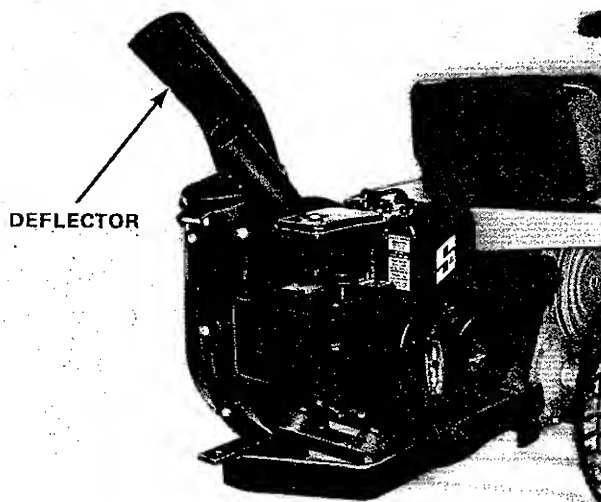

FIGURE 4
3. Attach the hose deflector plate to the top of the blower housing. The deflector fits on the outside of the blower outlet. Secure with the three No. 10 self-tapping screws. (See Figure 4)